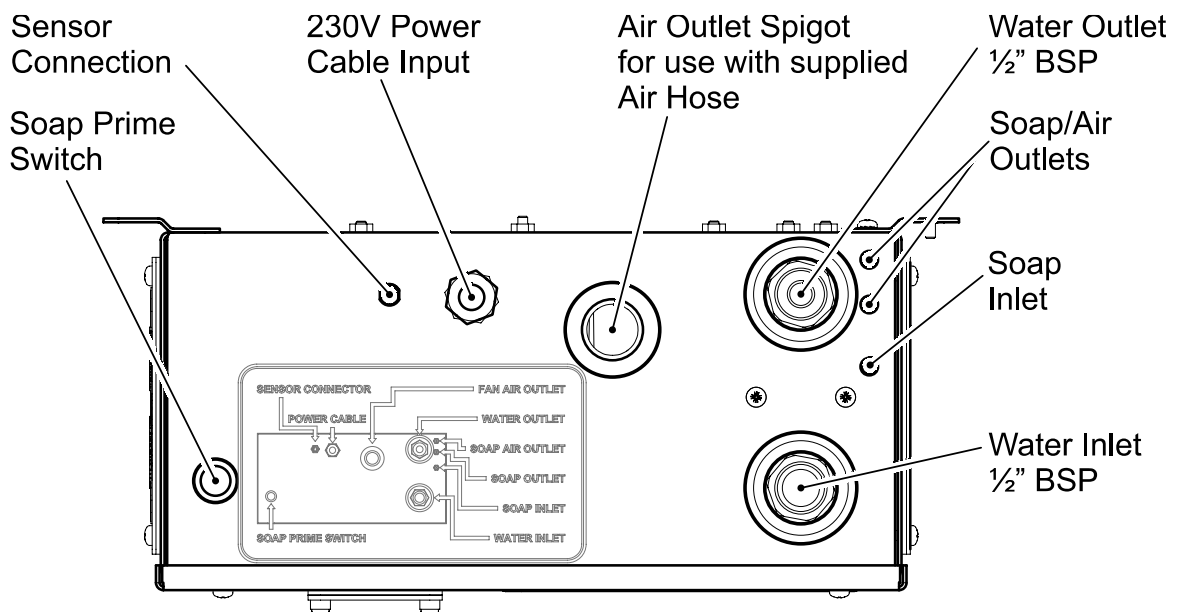

Figure 15: Control Module I/O arrangement.
1. First connect air hose to tap. Ensure jubilee clips are positioned roughly 15mm from each end of air hose. Push one end of air hose over black air hose spigot protruding from the tap head. Then push the other end over the “air outlet spigot” on the Control Module (see fig 15 for reference).
5. Take 2x soap hoses from bottom of tap head and push over “soap and air outlets” indicated in fig 15. Use 2x cable ties to secure soap tube onto outlet spigots.
1. To connect the Control Module to the water supply simply screw on a ½" BSP connector to the "water inlet" detailed in fig 15.